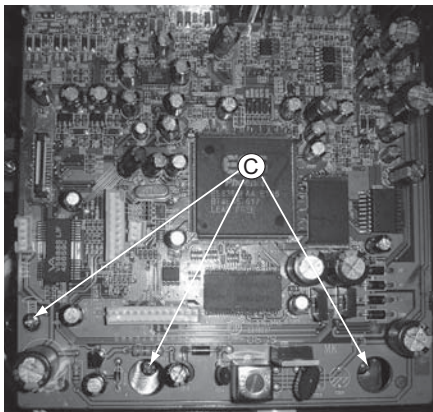

Figure 3
- 2) Loosen 3 screw "C" at the main board as shown in figure 3.